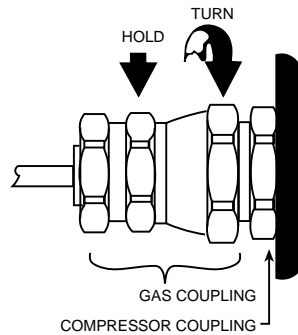

Figure 26. Connect Gas Line to Compressor or Camera
4. Using a 10 mm box wrench, remove three (3) shipping bolts from bottom of CRYOTIGER compressor. ***Avoid tilting the compressor more than 30 degrees in order to remove the bolts.***
5. Check the Tip-N-Tell indicator on the shipping container. If the indicator is BLUE, the compressor was tipped beyond allowable limits. This means you must let the compressor sit for a minimum of four (4) hours for the oil to settle.
10. Using two wrenches (5/8" and 3/4"), connect the gas lines at the compressor end. Red label is for Supply, Green label is for Return. **Torque couplings to 14-16 N·m (10-12 lb.ft.).** Refer to Figure 26.